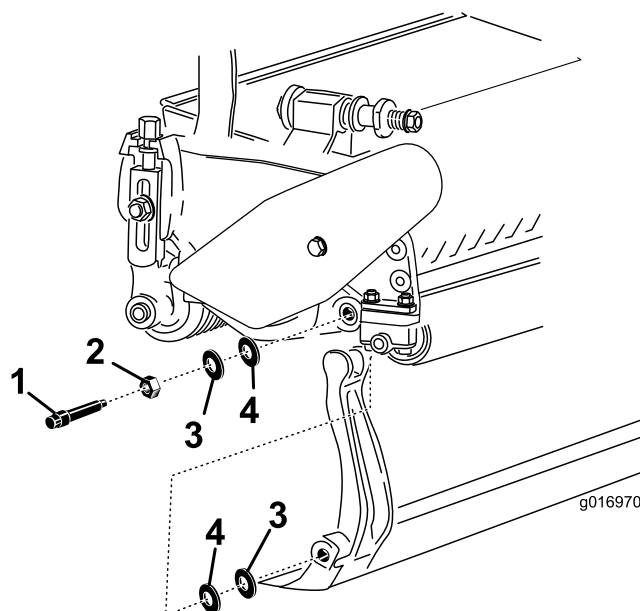

Figure 21
Account for the 2 nylon and 2 stamped steel washers on each end of the bedbar (Figure 21).
3. Position a nylon washer on each side of the side plate boss. Place a steel washer outside each of the nylon washers (Figure 21).